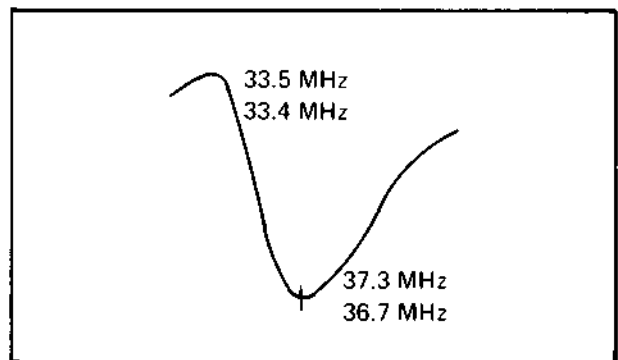

Fig. 5-42
7. Adjust the core of T106 to tune sound trap to the 33.5 MHz (HR-3660EK), 33.4 MHz (HR-3660EG) marker as shown in Fig. 5-42.
8. Adjust the core of T105 so that the 37.3 MHz (HR-3660EK), 36.7 MHz (HR-3660EG) marker comes to the top of the waveform as shown in Fig. 5-42.